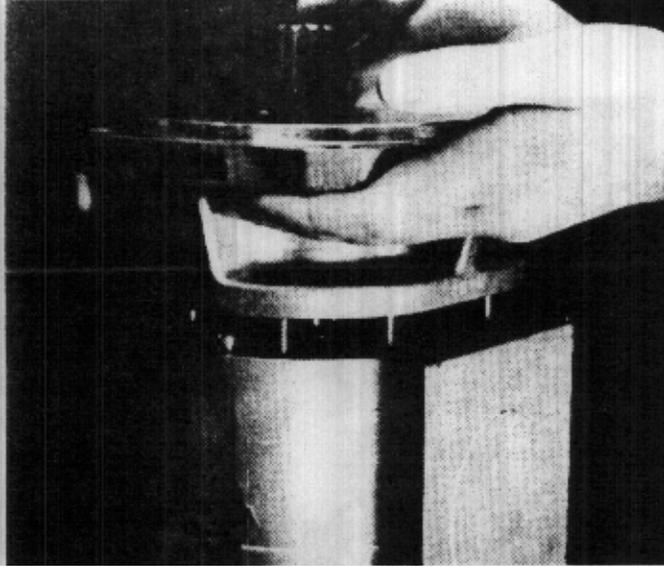

FIGURE 77
5. Keeping the flange (1) as straight as possible, lift it off the shaft and stud bolts. If the flange is stuck, use a wooden mallet or plastic hammer and tap around the edge to loosen it. (Fig. 77)